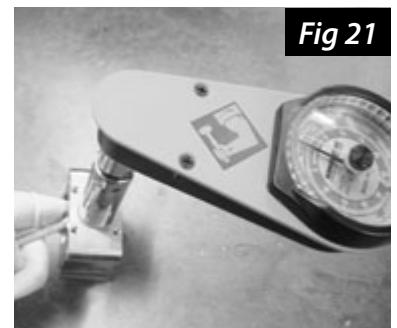

Fig 21
5. Wipe away any excess vacuum grease on the valve stem. Place a new stem lock nut onto the valve stem. Torque nut to 35 in-lbs with a torque wrench and 7/8" socket. Hold the valve stem in place by grasping the base of the stem on the inside of the valve body with a 5/16" or 8mm open-end wrench or an adjustable wrench (Fig 21). **WARNING: Over tightening the stem nut will cause the o-ring to wear prematurely and greatly reduce cycle life. Stem leaks may also result.**